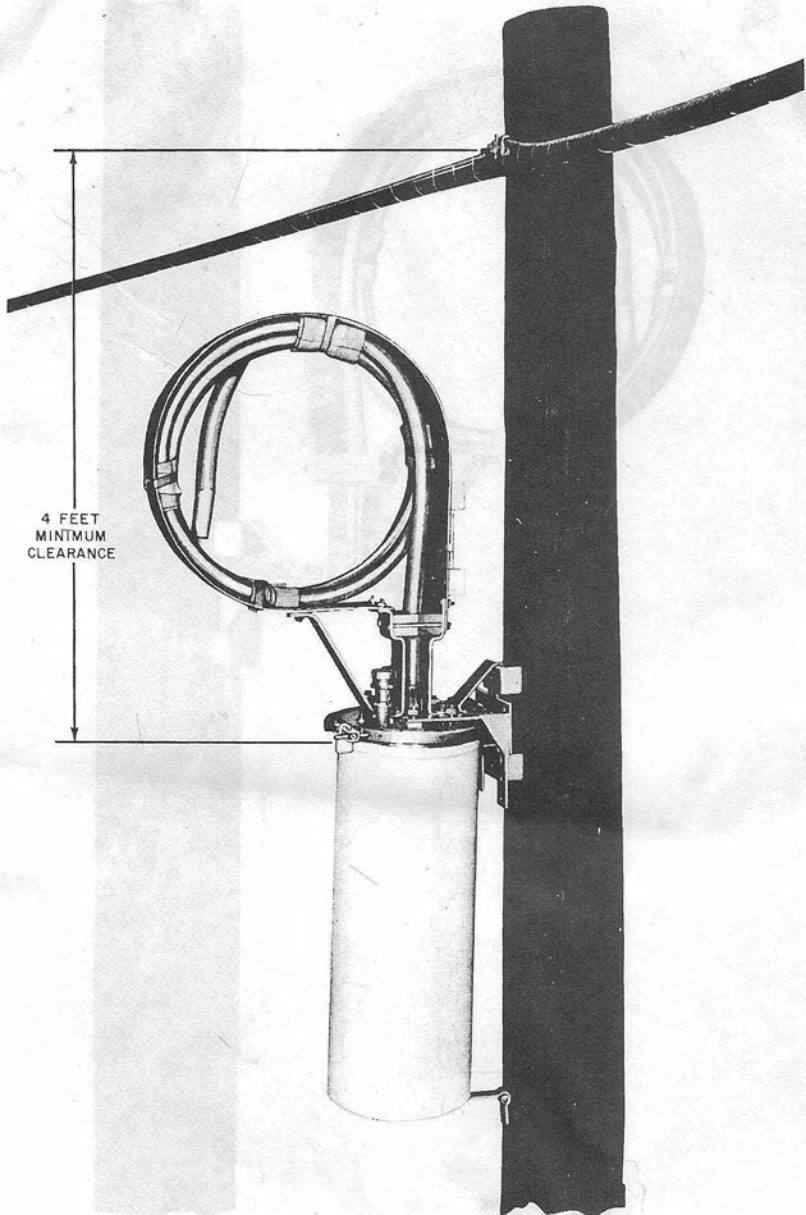

Fig. 13—Apparatus Case—Strand Level
- 3.10 When placing the apparatus case on the pole at strand level, the case must be mounted at least 4 feet below the strand as shown in Fig. 13. The cable clamp bracket and wood supporting blocks must be left in place on the apparatus case.